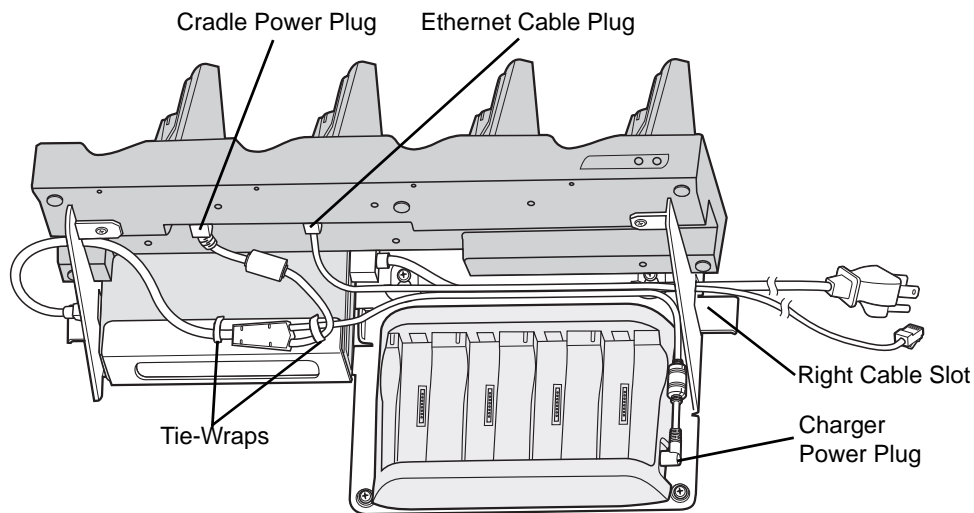
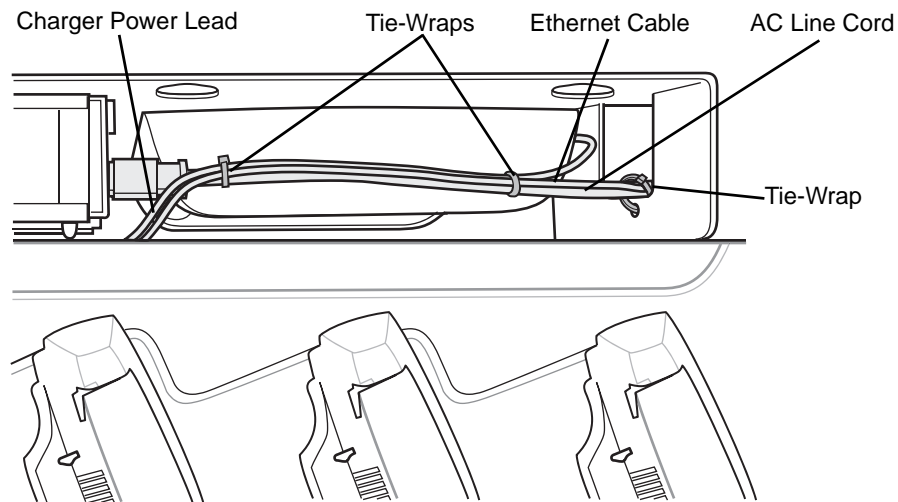

Figure 2-19 Cable Routing
Figure 2-20 Routing Cables
8. Route the cables as shown in Figure 2-19 and Figure 2-20.